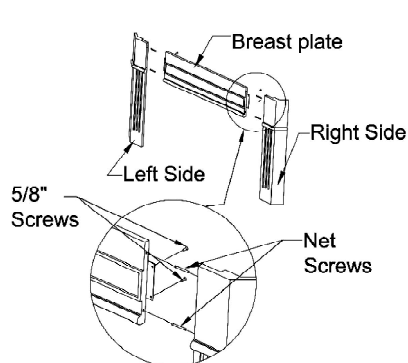
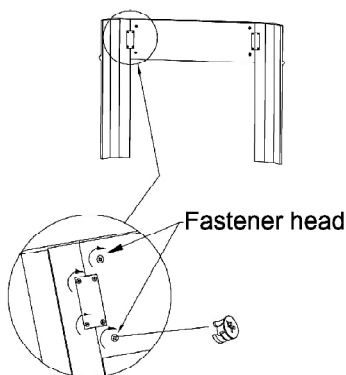

Figure 4
Figure 5
6. Screw the net-screws through the holes in the right and left sides (See Figure 4), and then into the corresponding holes in the breast plate. Fasten net-screw by screwing the fastener clockwise along the arrow direction pointing where net-screw is to the holes in the back of breast plate. Keep the right and left sides close to the breast plate, then attach them to the breast plate with 5/8" screws. (See Figure 5)